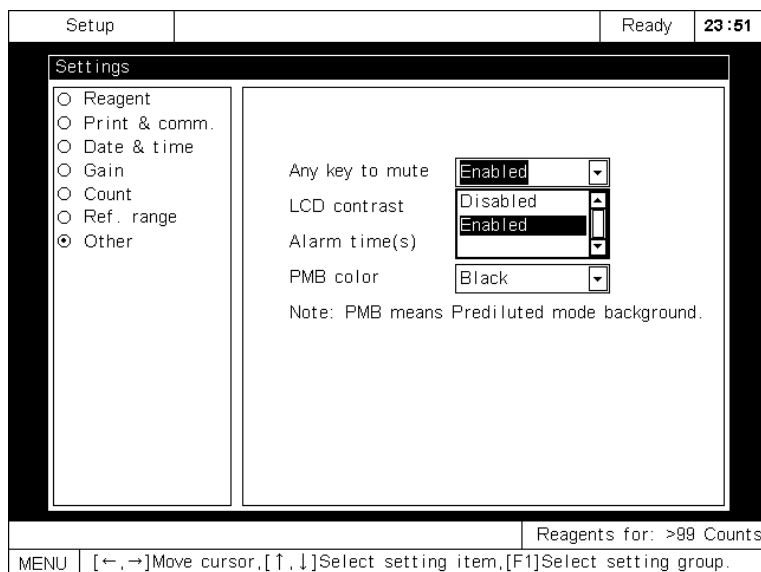

Figure 7-36 Selecting how to mute the beeper
- Press [] or [] to move the cursor to the edit box right of **Pressing any key to mute the beeper**. Press [ENTER] to display the pull-down menu, as Figure 7-36 shows.